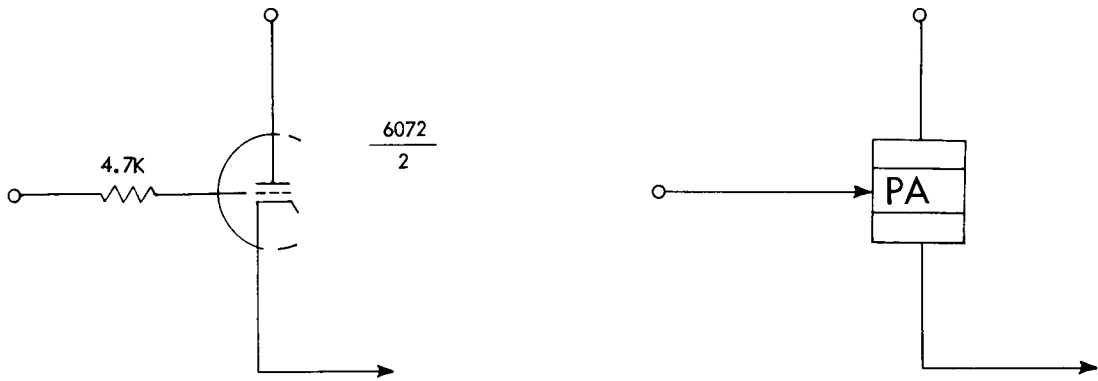
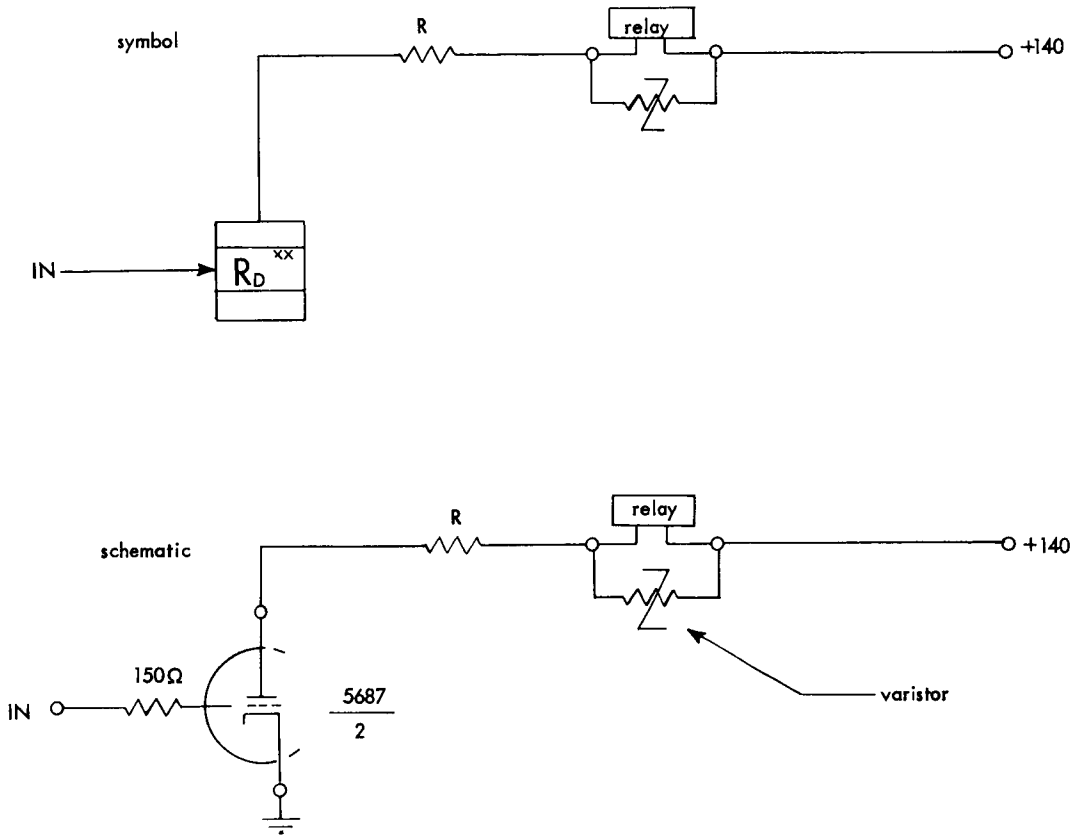

FIGURE C44. PREAMPLIFIER (DRUM) -- PA
FIGURE C45. RELAY DRIVER -- R_D
2.04.11 Preamplifier (Drum) (PA)
The drum preamplifier (PA) (Figure C44) is used to power the signals from the drum read heads. Preamplifiers are primarily cathode followers and no voltage amplification takes place in this stage. The amplification of preamplifiers is about 0.6. The input signal to the preamplifier is approximately 100 millivolts, and the output is approximately 60 millivolts. Preamplifiers are connected in a cathode-follower OR circuit configuration with one preamplifier for each track in each channel. Each OR circuit composed of the preamplifiers, therefore, contains 30 preamplifiers with one common load resistor. This common load resistor is the 1.5K resistor at the input to the AD_C (section 2.04.01, Book C). This preamplifier OR-circuit configuration is somewhat unusual in that each preamplifier has its input voltage up at the same time, but only one preamplifier is supplied plate voltage at a time. Therefore, only one preamplifier at a time has an output, and an input to the common amplifier.
2.04.12 Relay Driver (RD)
The relay driver (RD) (Figure C45) is used to supply the current for operation of relays. A load resistor in series with the relay that is to be operated is chosen so that the total load on the RD is not less than 2000 ohms. When the input is brought up, the tube conducts and the relay is picked. An RD_X is an RD using a 5965 tube in place